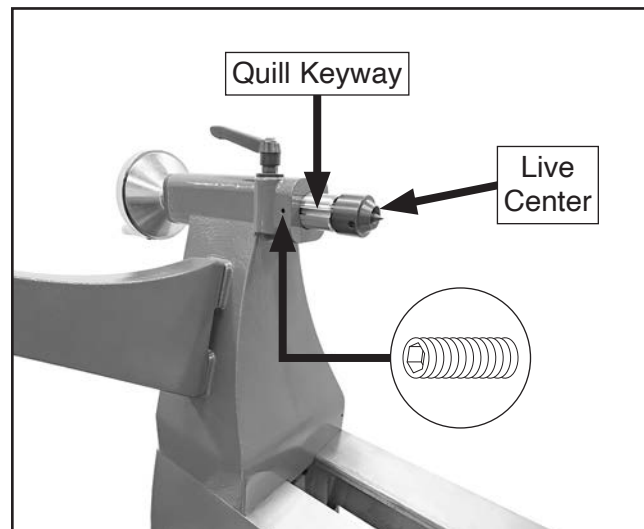

Figure 60. Center installed in tailstock.
3. Firmly insert tapered end of center into tailstock quill (see **Figure 60**).
4. Verify quill set screw is aligned with quill keyway to ensure tailstock center and quill will not freely rotate under load (see **Figure 60**).